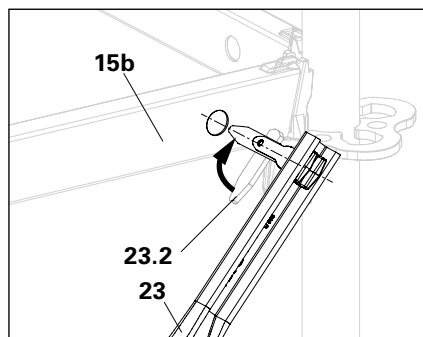

Fig. A4.07c
3. Straighten the tilt finger (**23.2**). (Fig. A4.07c)